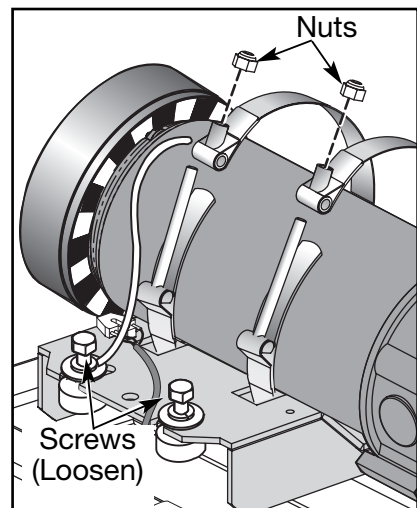

Figure 12
- A. Using a 1/2" socket wrench, loosen but (do not remove) the two screws on the motor saddle. See Figure 12. **NOTE:** The tension is now released. You will remove motor ground cable in step 5A.
- A. Using 7/16" open end wrench, remove the nut on each motor strap and remove the motor straps from the motor saddle. See Figure 12.